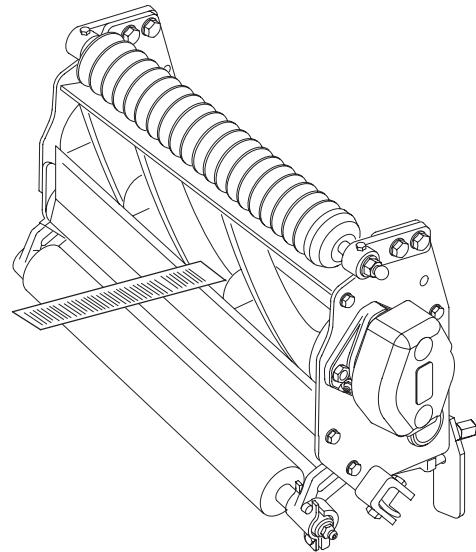

Figure 3
4. After the adjustment is accomplished, check to see if the reel can pinch paper when inserted from the front and cut paper when inserted at a right angle (Fig. 3). It should be possible to cut paper with minimum contact between the bedknife and the reel blades.